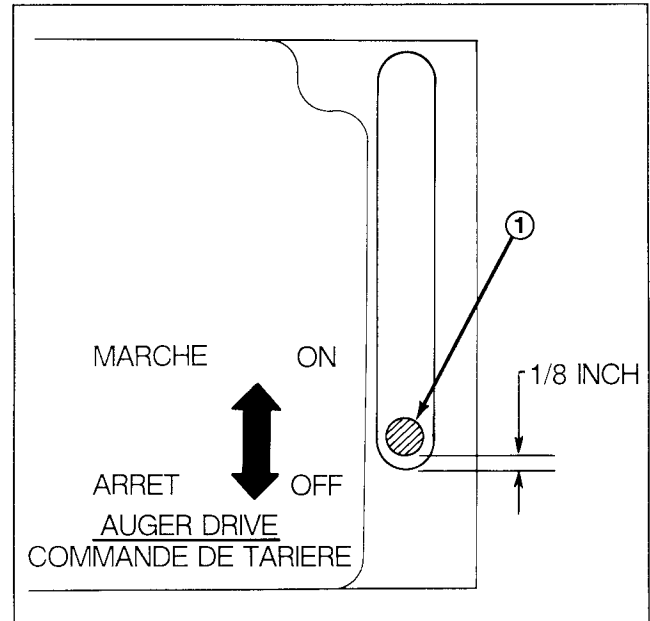

Figure 3
1. Move auger drive control backward to OFF (disengage) position (Fig. 3).
3. Check location of auger drive control in slot on control panel. **BACK EDGE OF AUGER DRIVE CONTROL MUST BE 1/8 INCH FROM REAR OF SLOT (Fig. 3).** Remove clevis pin, rotate clevis up or down on rod, and reinsert clevis pin until 1/8 inch dimension is obtained.